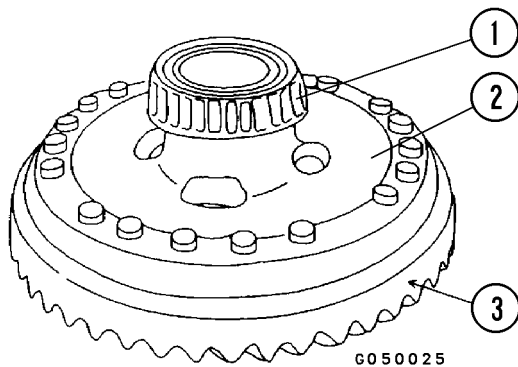

FIGURE 5-26. DIFFERENTIAL BEARING
1. Install bevel gear (3, Figure 5-26) in differential gear case (2). Apply Three Bond TB1374 thread tightener to mounting capscREW and tighten to **94.5 kg.m (684 ft.lbs.)** torque.
2. Install side bearing (1). Shrink fit bearing by heating to 100° C (212° F).